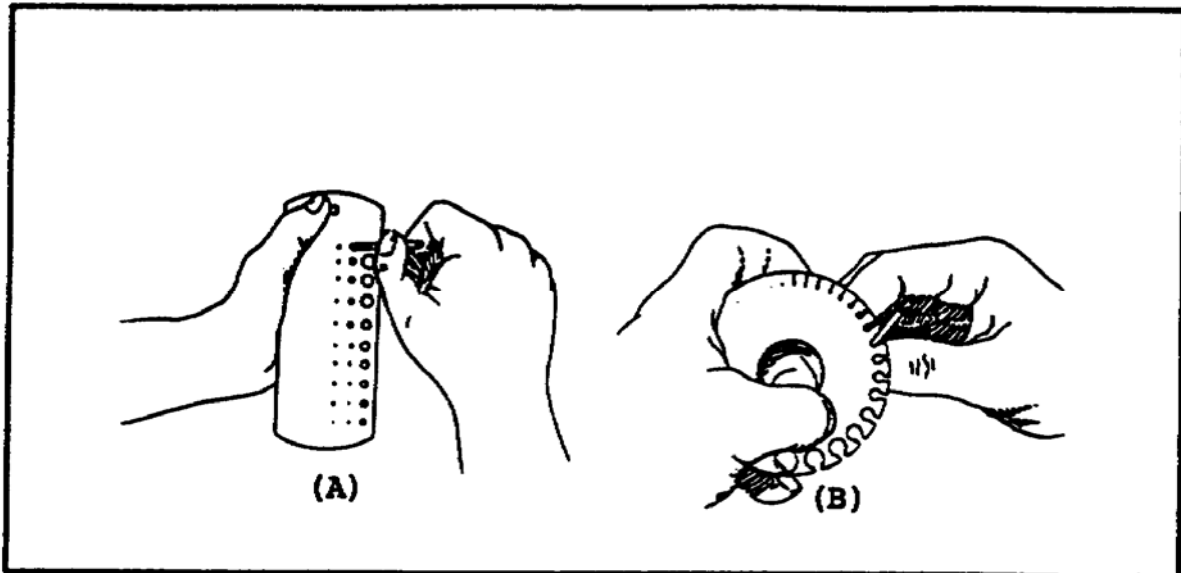

FIGURE 206. USING DRILL AND WIRE GAGES.
k. *Use of Wire and Drill Gages.* The use of a drill gage is shown in figure 206, view A. The size of a drill is being determined; the drill size or number and decimal size are stamped on the gage beside each hole. A chart on the gage indicates the correct size of drill to use for a given tap size. Determine the size of both sheet stock and wire by using a correct sheet and plate or wire gage, as shown in figure 206, view B.